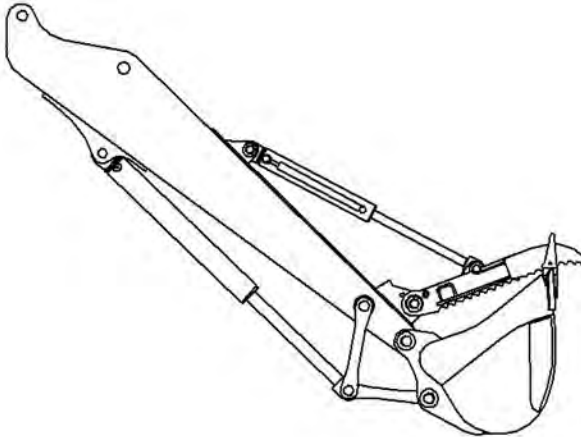

FIGURE 1
7. Thumb should touch the bucket as pictured in Figure 1. Normally the thumb tines will interlace with the bucket teeth.